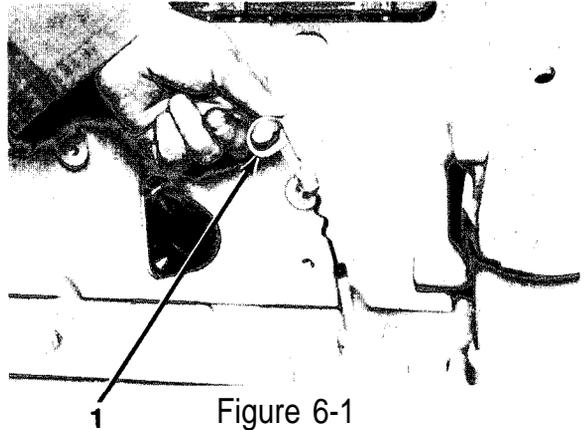

Figure 6-1
2. Insert a capscrew into top of oil gauge tube (2) and drive oil gauge tube (2) into block. Remove capscrew.
3. Install dipstick (1, Figure 6-1).